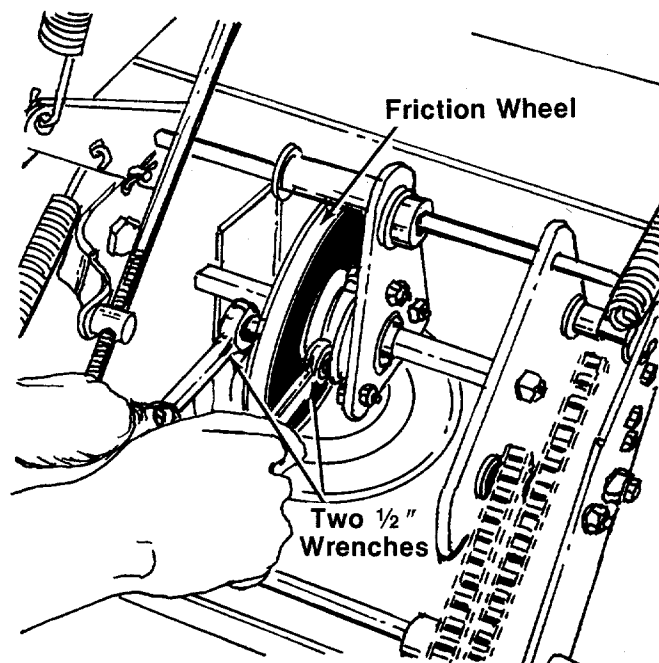

FIGURE 33.
4. Using two 1/2" wrenches, loosen and then remove the three hex nuts and lock washers holding the friction wheel to the friction wheel adapter. See figure 33.